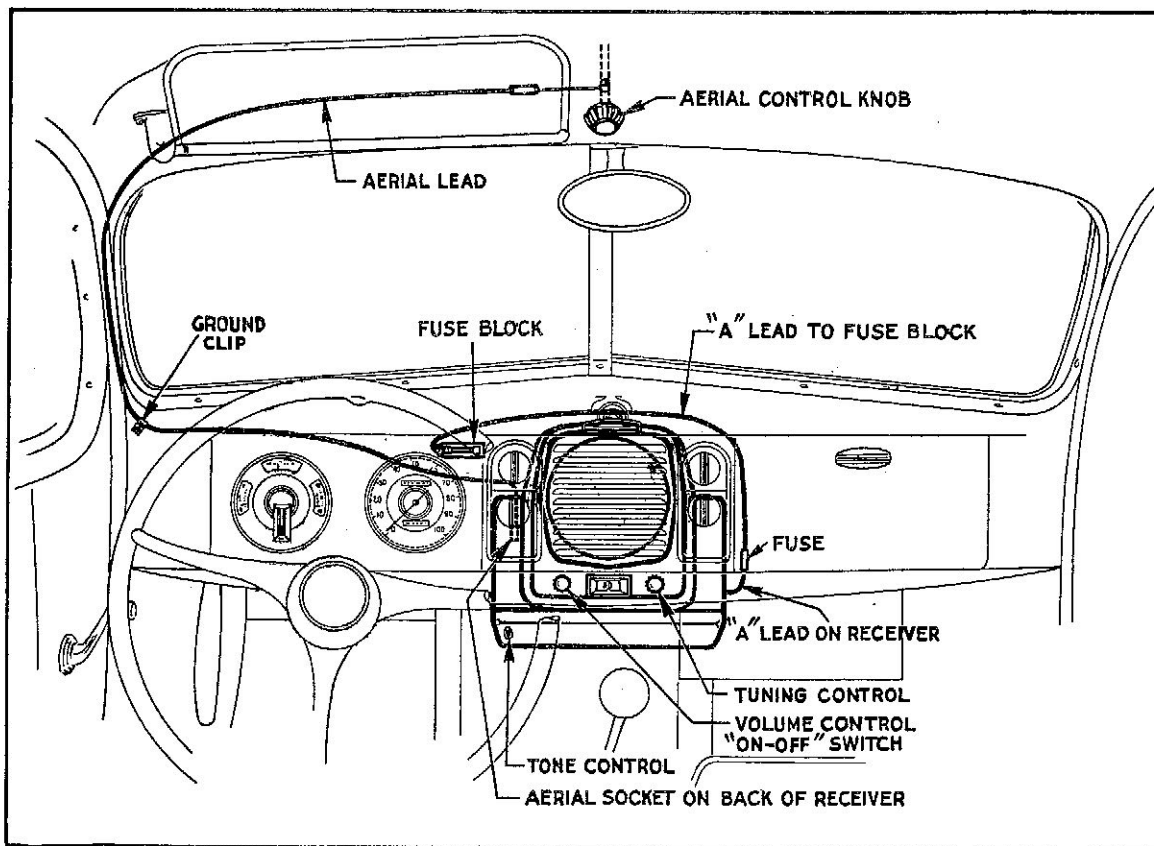

FIGURE 1
The Receiver, speaker and control assembly are installed between the instrument board and the dash. The speaker is located directly behind the ornamental grille in the center of the instrument board. (See Figure 1).
7. Plug the aerial lead into the antenna socket on the back of the Receiver. (See Figure 1).
Turn the left knob in a clockwise direction. The first range of motion will turn the Receiver on. From that point on, this knob acts as a manual volume control. (See Figure 1).
A tone control is provided on this Receiver, so that the tone of a particular program may be changed to the desired pitch. This tone control is operated by the small lever located on the bottom side of the Receiver near the left-hand front corner. (See Figures 1 and 4). Moving this lever forward or backward will change the high frequency response as desired.
The control knob, which is located in the center of the header bar (see Figure 1 for location), adjusts the aerial from the down to the up position when turned clockwise. In the up position, the aerial will give greater reception on more distant stations.